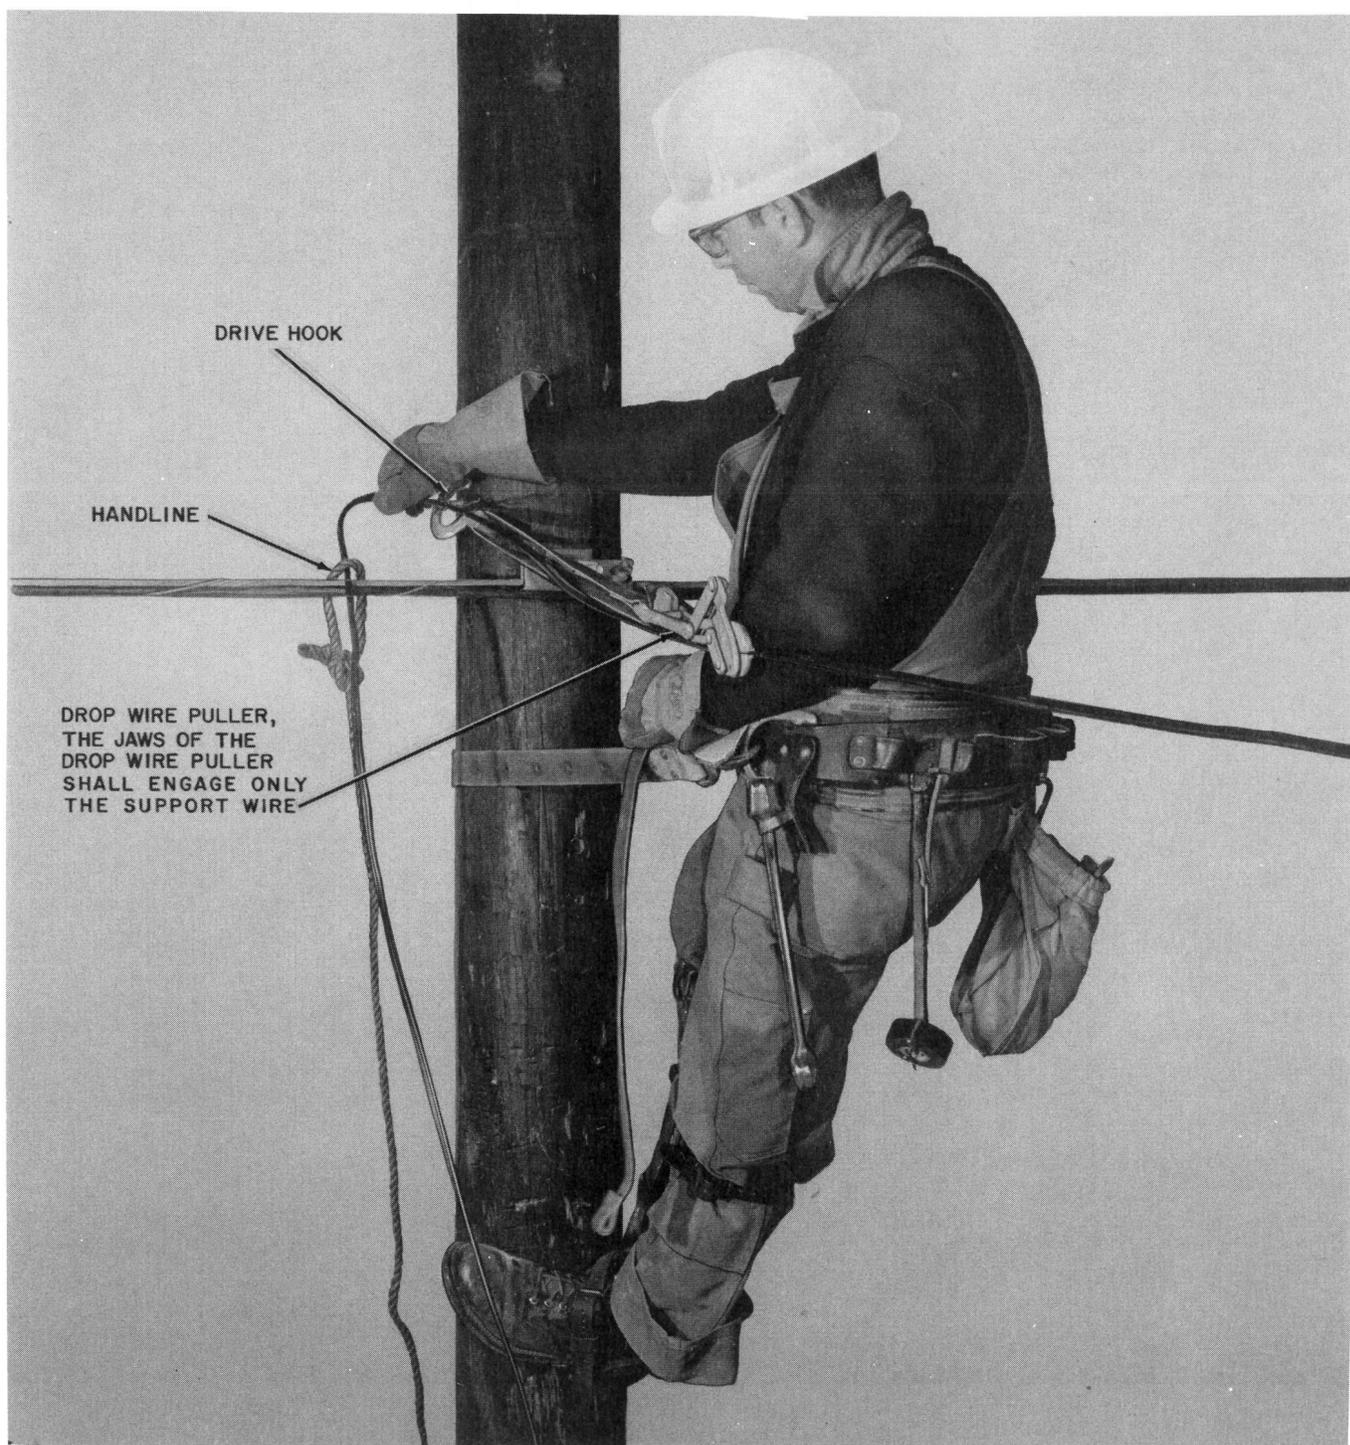

Fig. 8—Installed Drop Wire Puller
- 4.13** For spans over 90 feet install a drop wire puller or slack block on the F coaxial wire as follows (Fig. 8):
7.06 If minimum sag shown in Table D is required for clearance it will be necessary to pull the G coaxial wire with a drop wire puller, (Fig. 8). (See Section 462-400-200.)